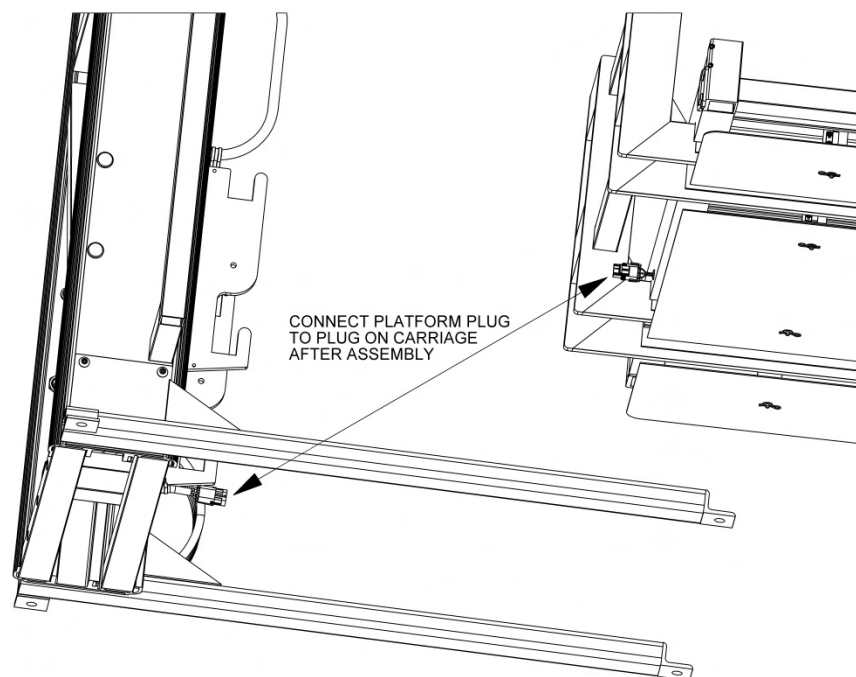

FIG. 4.3
5. Locate the wiring connector protruding from the back of the platform and attach to the corresponding connector on carriage (FIG. 4.3).